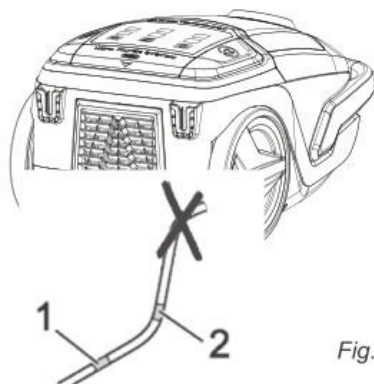
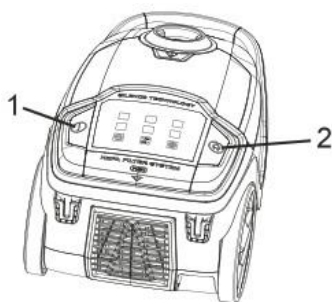

Fig. 10
Fig. 11
2. cord until the yellow marking is visible (Fig. 10/1).
If the red marking shows (Fig. 10/2) retract the cord by pressing the retract button to pull in the cable (Fig. 11/2) up to the yellow mark again. Otherwise the cord might break. There is danger of an electric shock.
3. Switch on the vacuum cleaner with the on/off switch (Fig. 11/1).